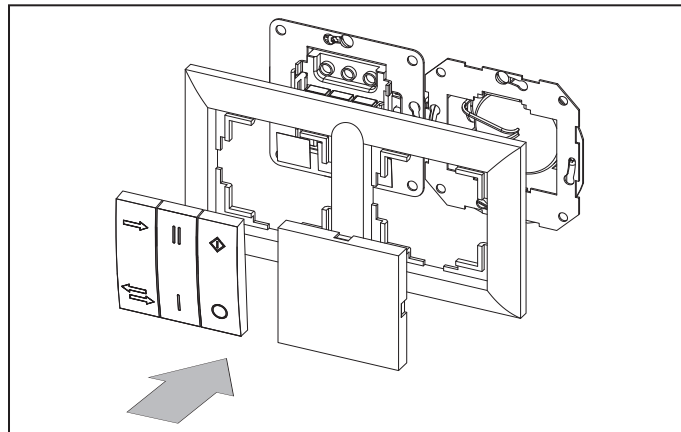

Fig. 21.
18. Install the frame, the buttons and the plug in the reverse order, Fig. 21.